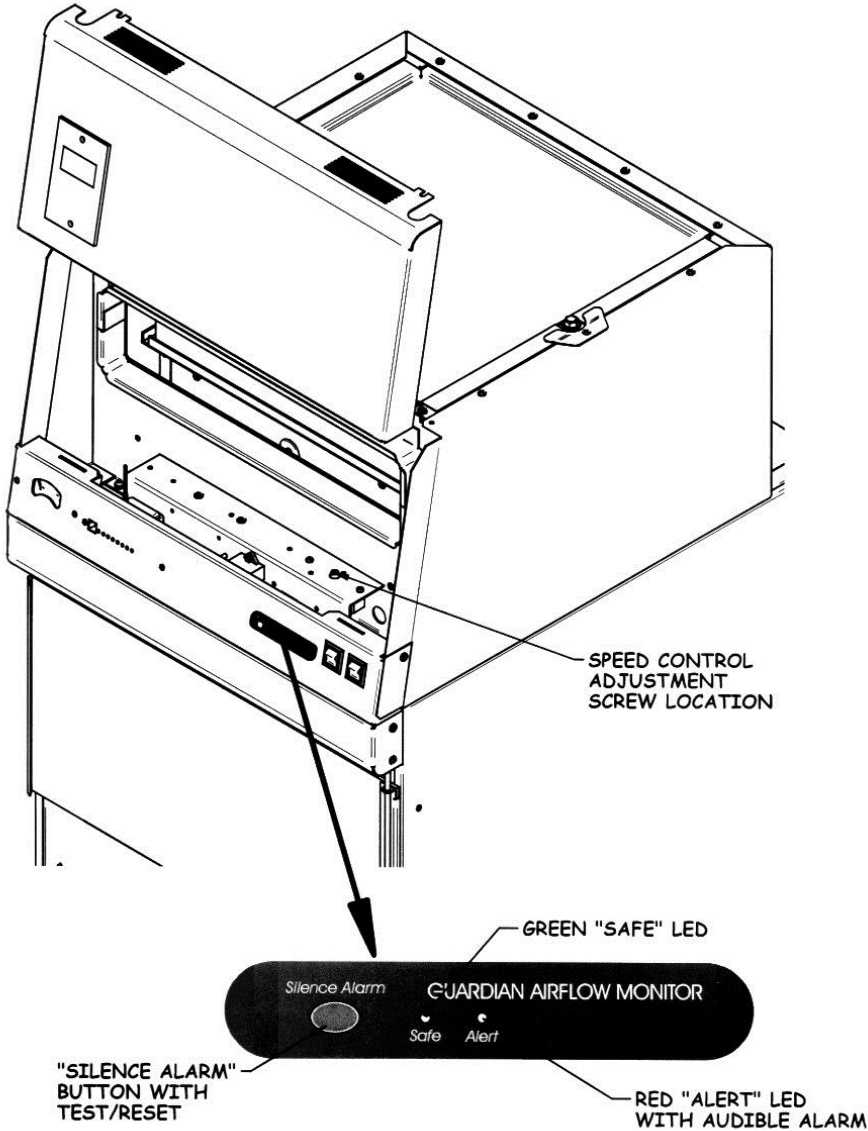
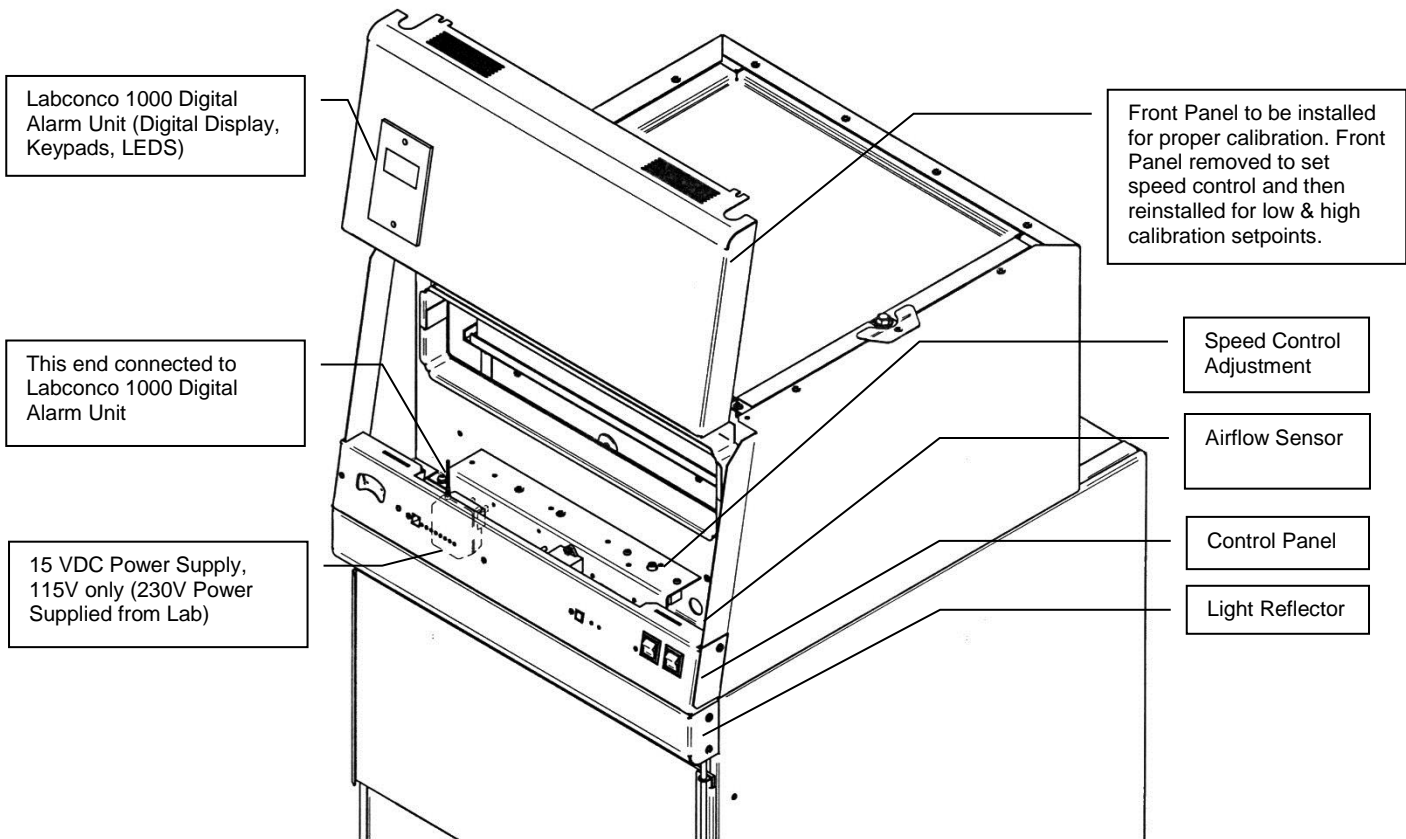

Figure 6-2
Figure 6-3
Refer to Figure 6-2 for operation and calibration.
Refer to Figure 6-3 for operation and calibration. Refer to the separate Labconco 1000 Alarm Manual for detailed information.
2. Locate the light reflector located under the control panel shown in Figure 6-2 and Figure 6-3.